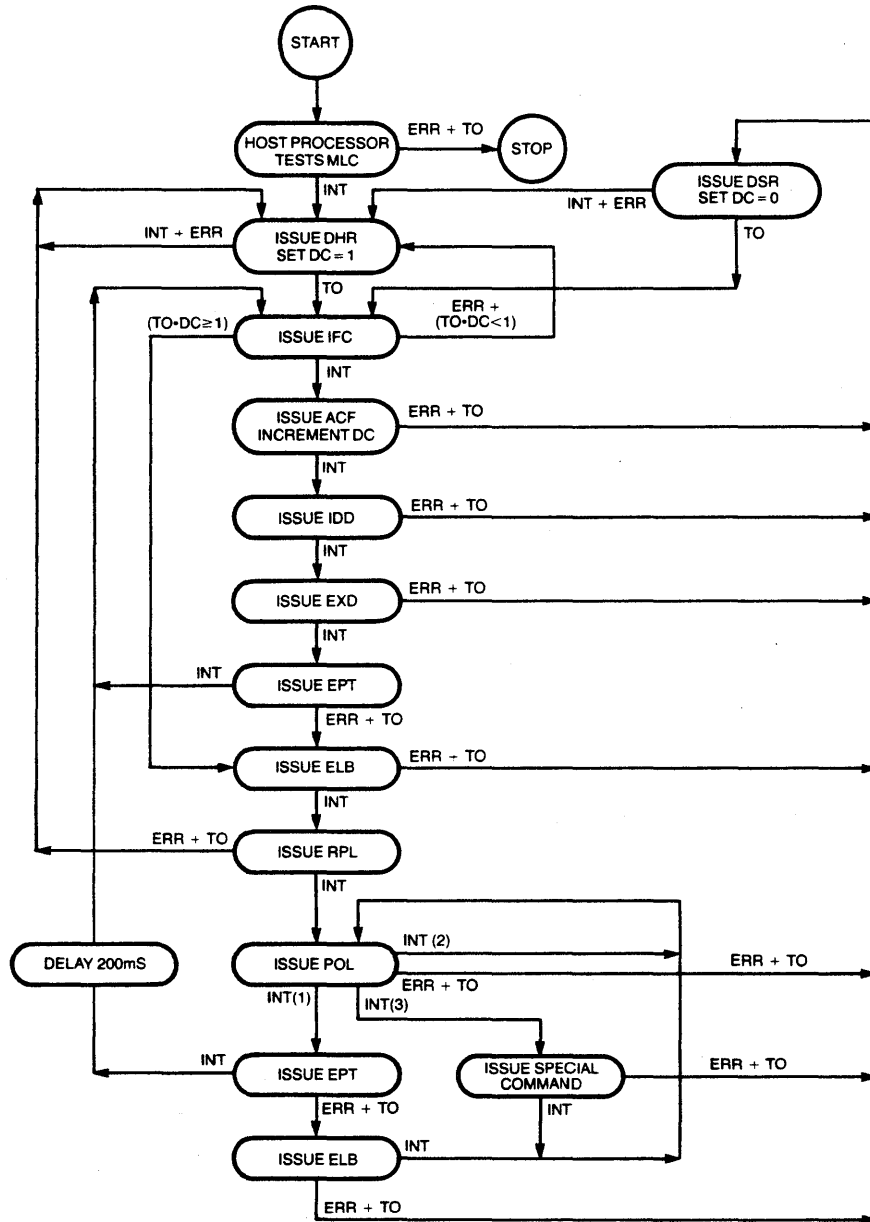

Figure 4-1. System Control Diagram
The control of the Link by the System is shown graphically in Figure 4-1. This diagram is not a state diagram, but is intended to show how the System deals with configuration, error recovery, polling, adding devices, and special commands. The notation used in Figure 4-1 follows:
Notes for Figure 4-1:
Referring to Figure 4-1, the control process for HP-HIL can be broken up into four major areas of operation. These are configuration and error recovery, polling (data collection), adding devices to the Link, and handling special commands. Note that control of HP-HIL from the System is based upon timing or interrupts which cause the System to take action. Because of this, the controlling software will generally not be running continuously, but will be part of a larger interrupt driven environment. Thus, after an action has been taken, during the waiting for a condition to become true and cause the next action to be taken, the host processor will generally be doing other unrelated tasks.
At this point, the configuration process begins. This process can be seen as a loop in Figure 4-1, consisting of IFC, ACF, IDD, EXD, EPT, and back to IFC. The goal of the configuration process is to assign a unique address to each device on the Link, placing all but the last into Pass-Thru Mode. In the process each device may be requested to identify itself and report parameters necessary for scaling the device data to the System and utilizing any advanced features of the device.
Referring again to Figure 4-1, after the configuration of all devices has been completed, the next action to occur is the issuing of the RPL (RePoll). RPL is placed here as part of the error recovery process. If devices transmitted data, and an error occurred during polling, the Link would be reconfigured, and the lost data may be retrieved by the RPL command. If the Link is being configured for the first time, and polling has not yet started, the RPL command will not have any effect.
After the RPL command returns, the POL (Poll) command is sent. The System controlling the Link will remain in this oval most of the time. As explained above, polling can take place on a automatic (Auto Poll) basis or on an individual basis. To continue polling, control returns to the same oval, along the path marked with note (2). No other commands are required between polls. Errors or timeouts transfer control to the DSR oval at the top right of Figure 4-1. Two other conditions may cause polling to suspend. These are checking for added devices on the Link and processing special commands (e.g., Write Register).
When other commands are to be issued, the polling process is exited and the System then proceeds with the new command. This is shown in Figure 4-1 with control transfer occurring along the route marked with note (3). Other commands includes all those commands not explicitly shown in Figure 4-1, such as Register commands, Report commands, Prompts, Acknowledge, etc., and commands which are device specific. These commands are explained in Appendix A.
Errors may occur under various conditions on HP-HIL, and the correct System response to these errors varies as well. However, there are recovery procedures which apply to most situations, and these are described here. Refer again to Figure 4-1.